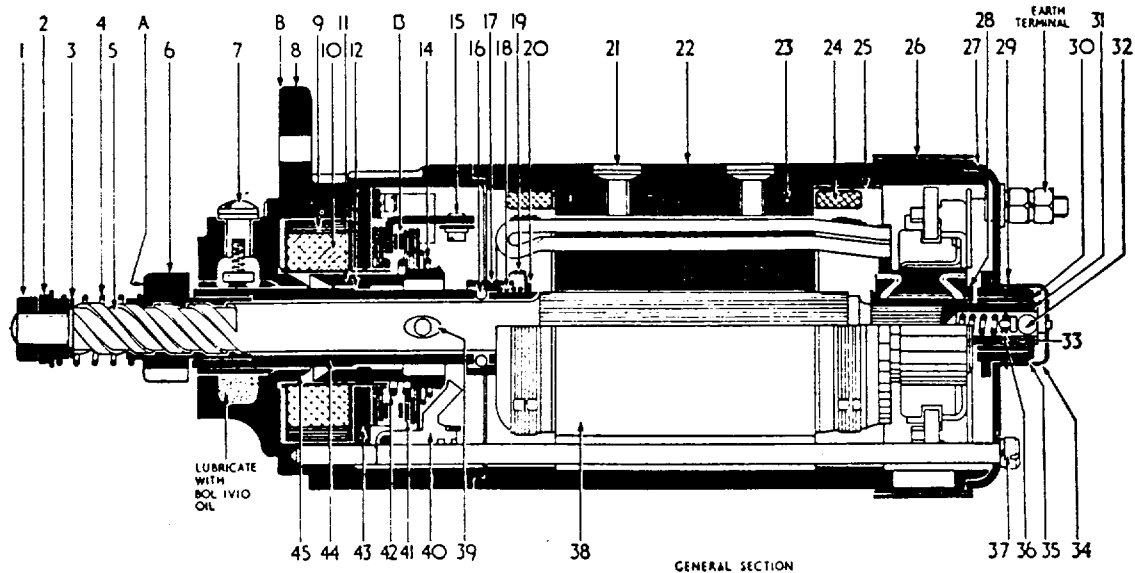

Fig. Q.9.
The solenoid (10) and resistor (9) (Fig. Q.9).
(Figs. Q.9 and Q.10 refer).